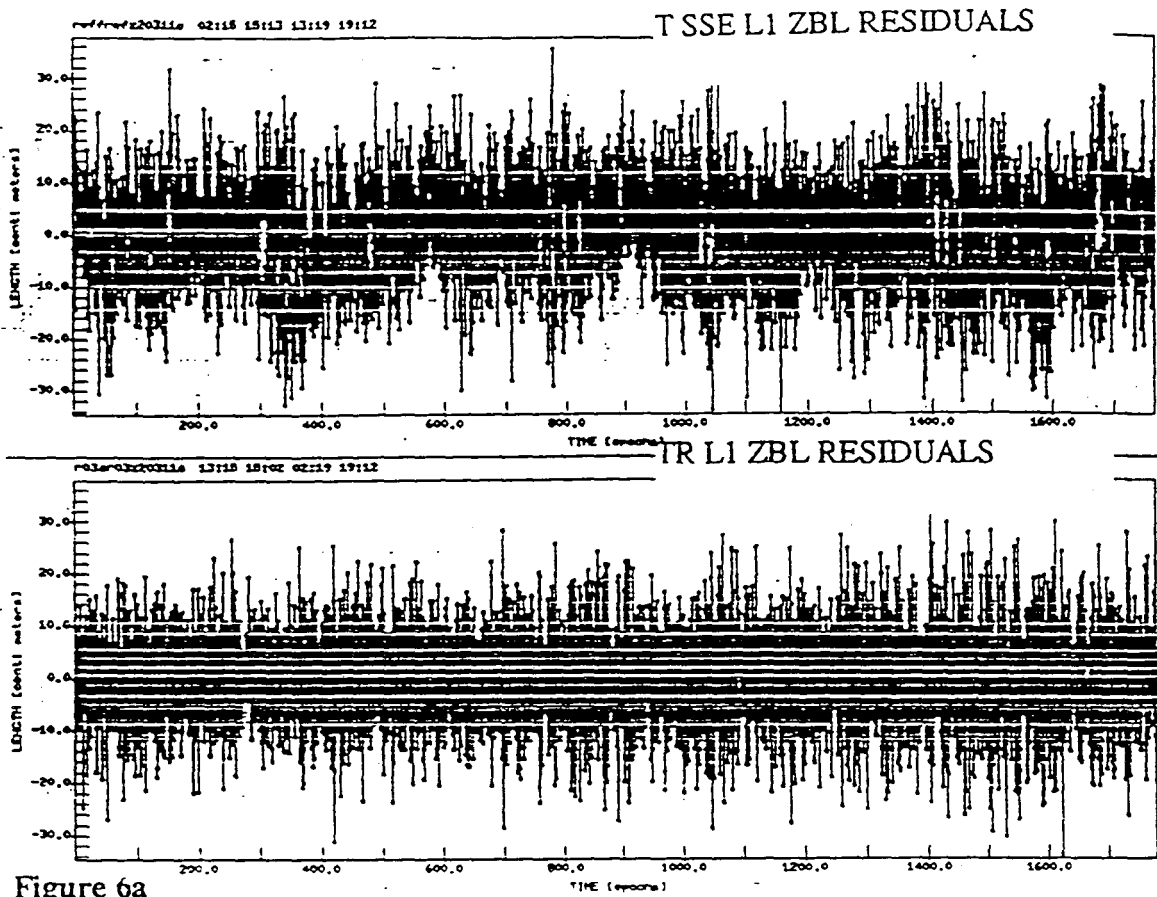
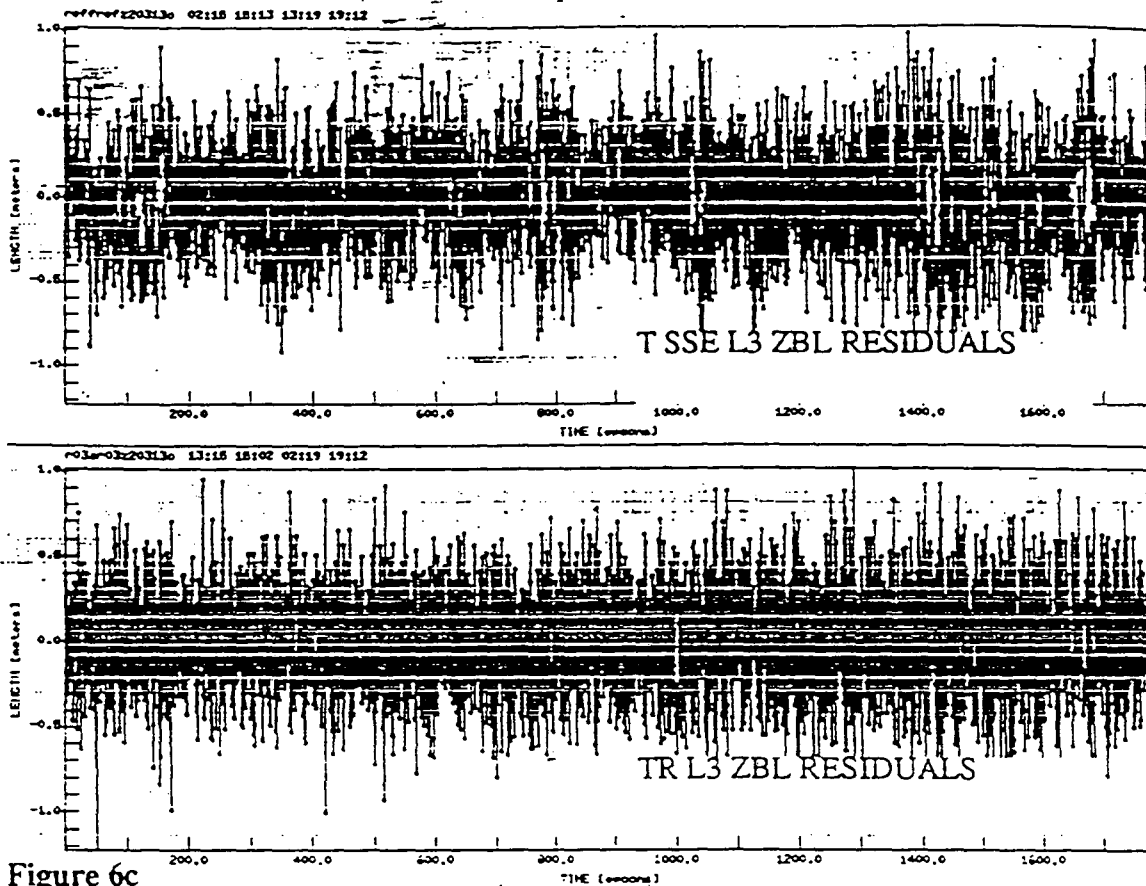

Figure 6a
Figure 6c
Figure 6a, 6b and 6c compare Zero-baseline post-fit double-difference residuals for the Trimble SSE and the Osborne SNR-8000 (TR) receivers. The Trimble and Osborne SNR-8000 (TR) zero-baseline data were collected at the same time. About 35 minutes of data are shown. Two Trimbles were connected to the same Trimble antenna, two Osborne SNR-8000 (TR) receivers were connected to the same D + M choke ring antenna. Figure 6a and 6b on the previous page compare L1 and L2 p-code measurement noise respectively. Figure 6c above compares noise levels of the ionospheric free linear combination of the p-code data.